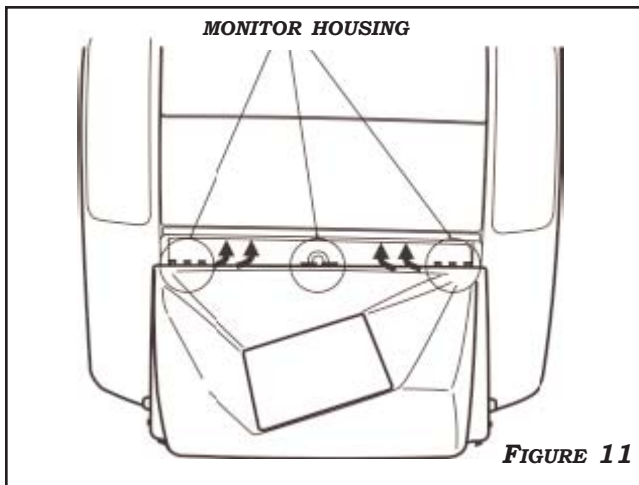
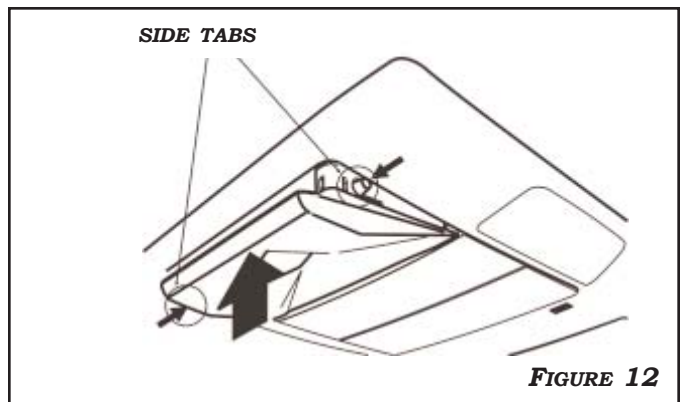

FIGURE 11
FIGURE 12
1. TO INSTALL MONITOR ASSEMBLY INTO OVERHEAD CONSOLE: START WITH REAR EDGE "HOOK" TABS ON MONITOR HOUSING INTO OVERHEAD CONSOLE. **FIGURE 11.** THEN PRESS SIDE TABS INWARD AND PUSH FRONT OF MONITOR ASSEMBLY UNTIL IT LOCKS INTO POSITION. **FIGURES 12**